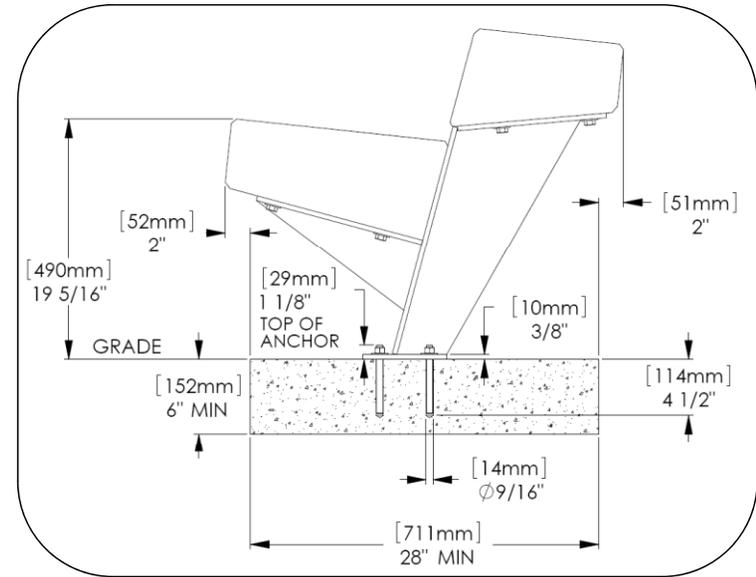

Fig. 1 – Surface mount at grade
2. Assemble wood seat and back to supports as shown in Fig. 4. Tighten all screws until snug. Lag screws in the slotted holes only, see Fig. 4, should then be loosened 1/4 turn. Refer to side elevation in Fig. 1 for proper orientation of seat and back. Note: each wood component weighs between 250-350 lbs. Proper personnel or equipment is required for lifting. Protect bench from marring and scratching.
6. Set drill template over marked locations. Weight the template and drill the holes according to Fig. 1. Prepare holes according to anchoring adhesive manufacturer's recommendations.